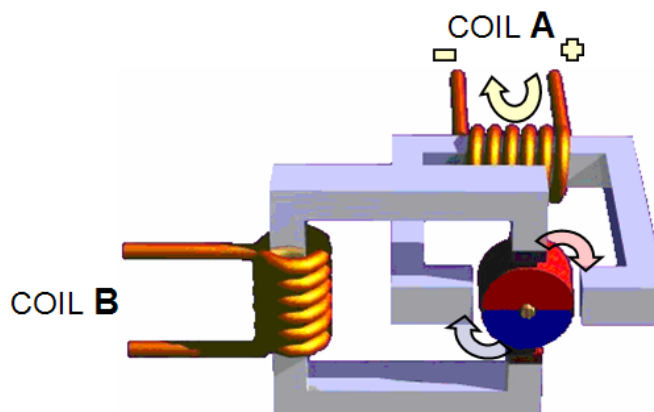

Figure 2. Stepper Motor Coil A
1. Coil A is connected to the power that makes the gear's teeth magnetically attracted to the electromagnet's teeth (Figure 2).
2. The gear's teeth are aligned to the first electromagnet. Next, they are aligned to the second electromagnet.(Figure 2).